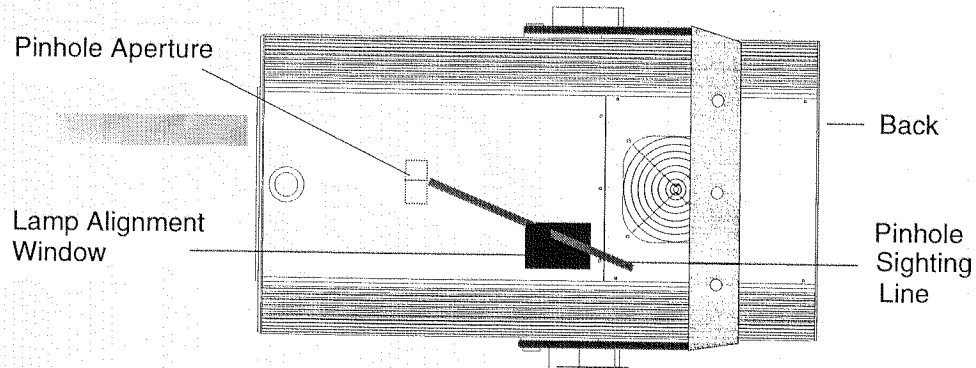

Figure 2.20. Viewing Pinhole through Lamp Alignment Window
10. From the top side of the fixture, **with top door installed**, look through the dark lamp alignment window towards the pinhole aperture (follow the path of the pinhole sighting line). Refer to Figure 2.20.